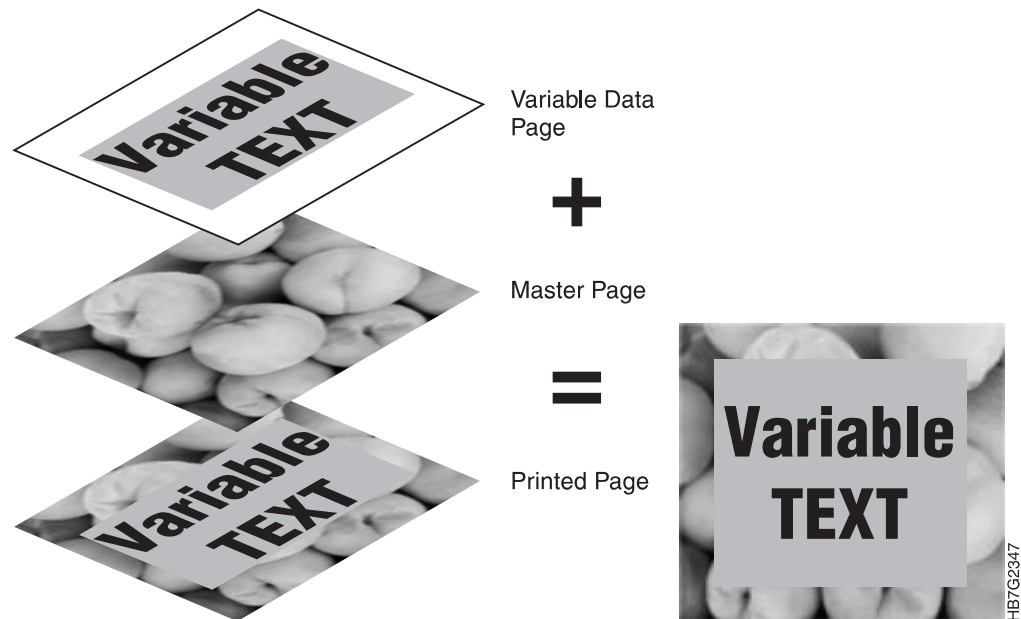

Figure 345. Sample "Knockout" Job Type (VDF0)
**VDF0** Creates a knockout in the master page and replaces it with the variable data. The knockout is the exact size, shape and position of the variable data. It is not trapped. This method produces the desired effect from most variable data jobs. When using VDF0 job type, variable data text should be limited to approximately 20 characters per line. When using black text, VDF2 is recommended and VDF3 is recommended when using white text. See Figure 345.